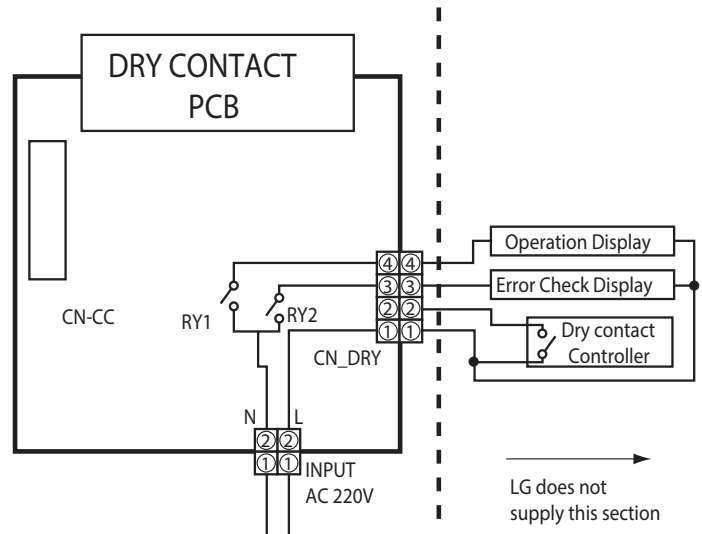
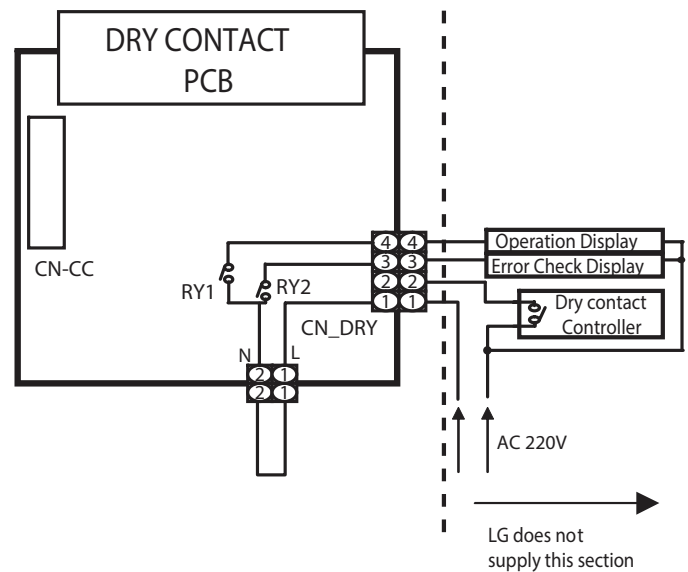

Figure 27: Dry Contact - Direct Power Wiring
Figure 28: Dry Contact - Indirect Power Wiring
- Power Source wired directly to the Dry Contact Terminals 1 and 2 and subsequently providing power to the third party binary switch (Figure 27).
- Power source wired to the third party binary switch (device) providing power to the Dry Contact (Figure 28).
Connect a CN_DRY with the third party binary contact and monitoring relays to CN-DRY terminals 1 through 4 as shown in either Figure 27 or Figure 28. External wiring is provided by others.